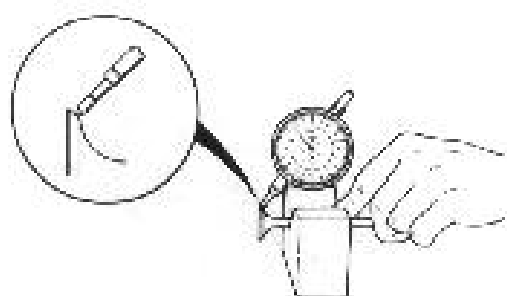

Fig. 3-63
- Check each valve for radial runout with a dial gauge and "V" block, as shown in Fig. 3-63. The object of this check is to determine whether the valve stem is true and square relative to the head.